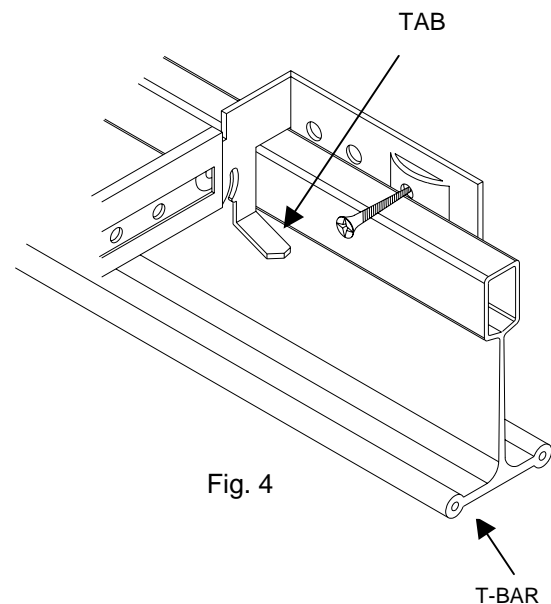

Fig. 4
- Rotate HINGED BAR ENDS to position shown (FIG. 4) and fully extend bars.
- Position notched area of MOUNTING BARS onto T-BAR and lock by bending TAB underneath T-BAR BEAD as shown (FIG. 4).